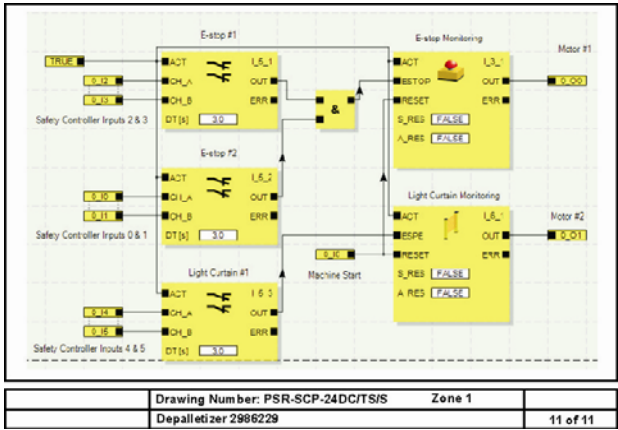

Figure 1 – Program print-out of safety documentation
- Program print-out (Figure 1)